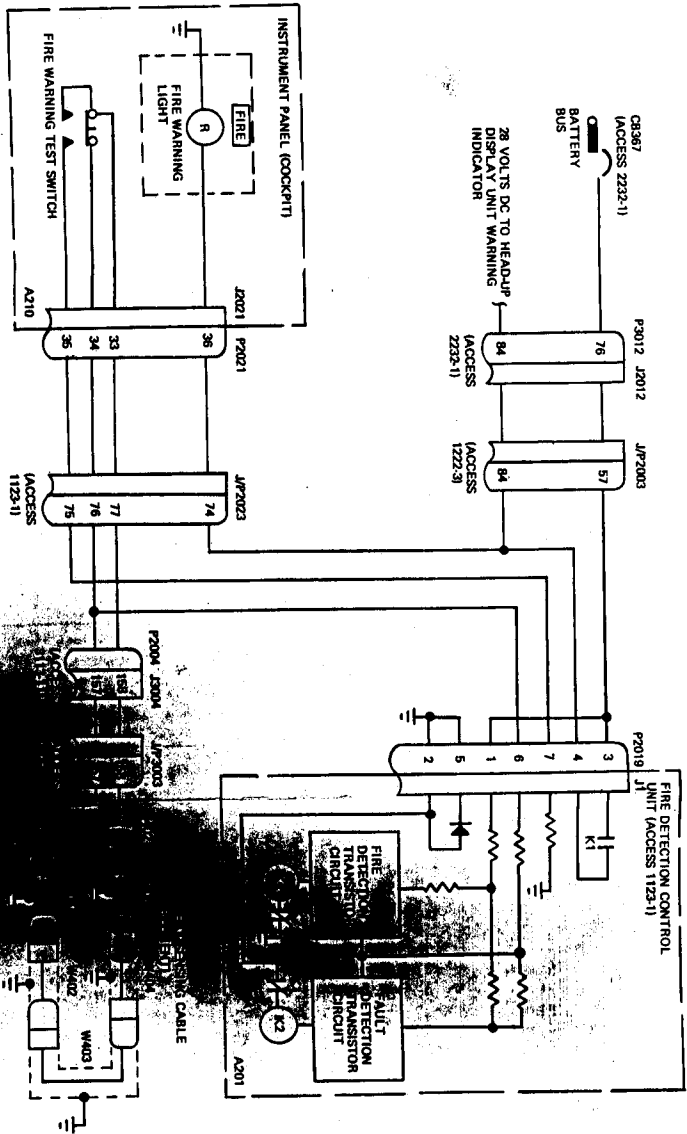

Figure 10-3. Fire Detection System Schematic Diagram (Airplanes Through AF69-6196)
**10-13. TROUBLESHOOTING.** (See figure 10-3 or 10-4.)**Test Equipment Required**
#### 10-4. OPERATION. (See figure 10-3 or 10-4.)